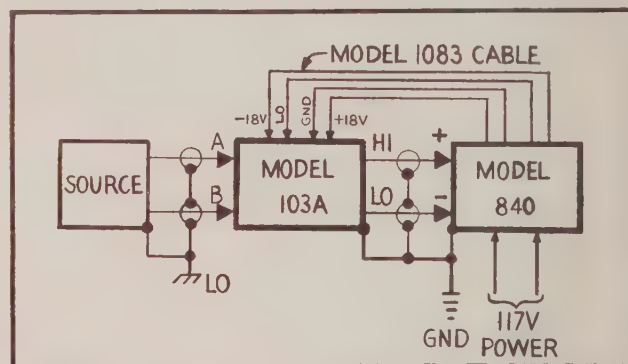

FIGURE 15. Use in System 84 Lockin Amplifier.
b. Lock-in System Preamplifier. When used with a phase-sensitive detector such as the Keithley Model 840 the Model 103A can be connected as shown in Figure 15. In this application the Model 103A outputs mate with the differential input of the Model 840 thereby minimizing the effects of ground loop connections. For this application the Model 840 should be set for "DIFF" input mode. Since the Model 840 accessory power output provides low and ground as well as ± 18 volts, it is not necessary to connect the Model 103A chassis to earth ground.